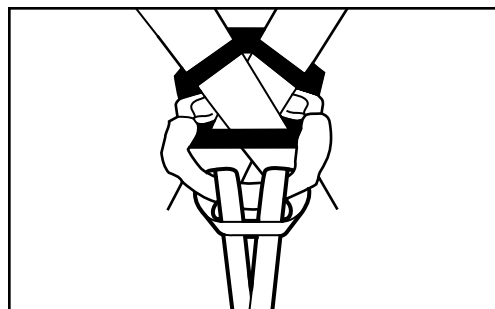

Figure 2: Loop D-Ring with Loop Lanyard
1.7 Lanyards with Loop Attachment: With lanyards that have one snaphook and one loop, always connect the snaphook to the anchor point and the loop to the harness D-ring or D-ring loop (See Figure 2).